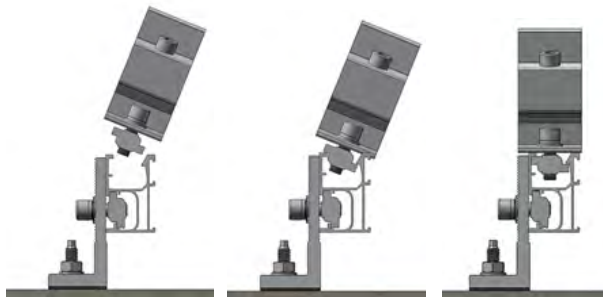

Figure 5.5A
5.5.1 Fix the Front Leg into the top channel of ECO Rail, then fasten the Front Leg after the position is adjusted properly as shown in Figures 5.5A and 5.5B